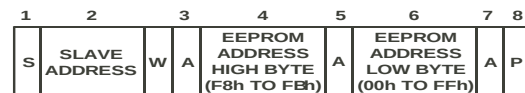

Figure 16d. Setting An EEPROM Address
2. Set up a two byte EEPROM address for a subsequent read, write, block read, block write or page erase. In this case the command byte is the high byte of the EEPROM address from F8h to FBh. The (only) data byte is the low byte of the EEPROM address. This is illustrated in Figure 16d.